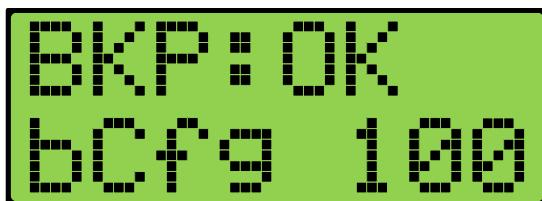

Figure 2: USB Flash Drive Back-up Complete
2. Shortly thereafter, the UCB displays the number of files and folders transferring over to the flash drive (Figure 2).